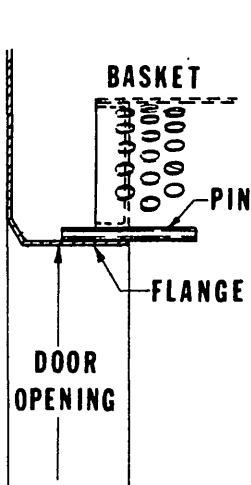
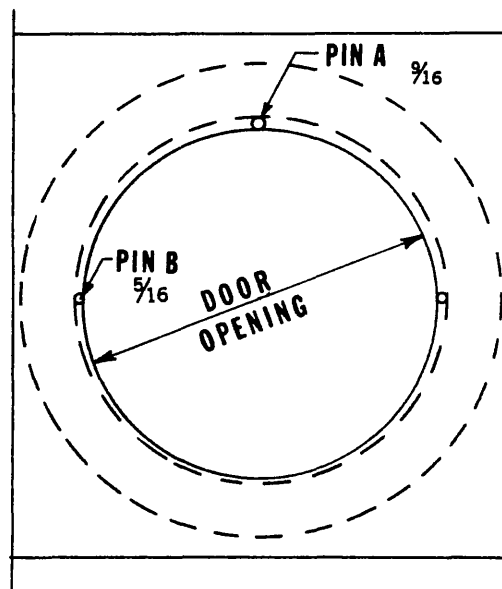

FIG 1
FIG 2
2. Lay air switch assembly on flat surface. Adjust air blade by bending at "A" (Fig. 1) so that air blade lays flat and surface "B" is parallel to the flat surface.
3. Place 3/16" x 5/8" spacer bar or equivalent "C" (Fig. 2) under air blade in position shown; hold switch mounting bracket firmly and adjust switch actuator "D" with needle nose pliers at "E" by twisting actuator right or left whichever is needed so that switch closes when end of air blade engages bar "C".
2. Place the "A" and "B" diameter pins inside the drying compartment between the rim of the basket opening and the rim of the door opening in the positions shown in Fig. 1 & Fig. 2.
5. Check the space between basket and door opening at "B" pin position (Fig. 2). If the gap is not approximately the same on both sides, repeat steps 1, 2, 3, and 4.